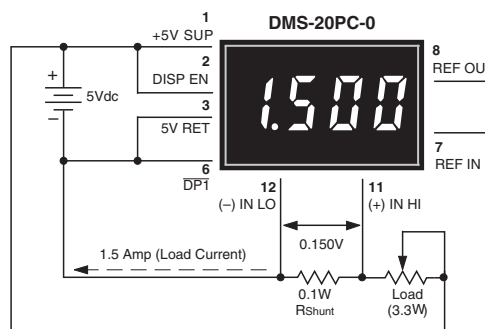

Figure 9. Basic DC Ammeter Circuit
**7. Digital Ammeter:** Digital ammeters are finding ever-increasing usage because analog-style ammeters (moving-vane types) now cost roughly the same as their digital counterparts. Additionally, analog ammeters are not nearly as rugged as modern digital panel voltmeters. Figure 9 illustrates a typical ammeter application. The circuit uses a ±200mV input meter — the preferred range for most ammeters — to measure the voltage developed across a 0.1Ω current shunt. The circuit shown represents a basic ammeter connection diagram. A detailed application note describing digital dc ammeters is included in DATEL's new Digital Panel Meter Databook.